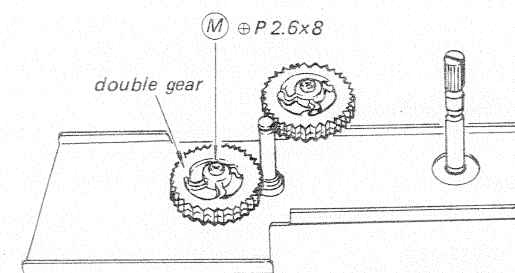

Fig. 2-18.
4. Remove the screw marked ⑦ in Fig. 2-18 and take off the double-gear.